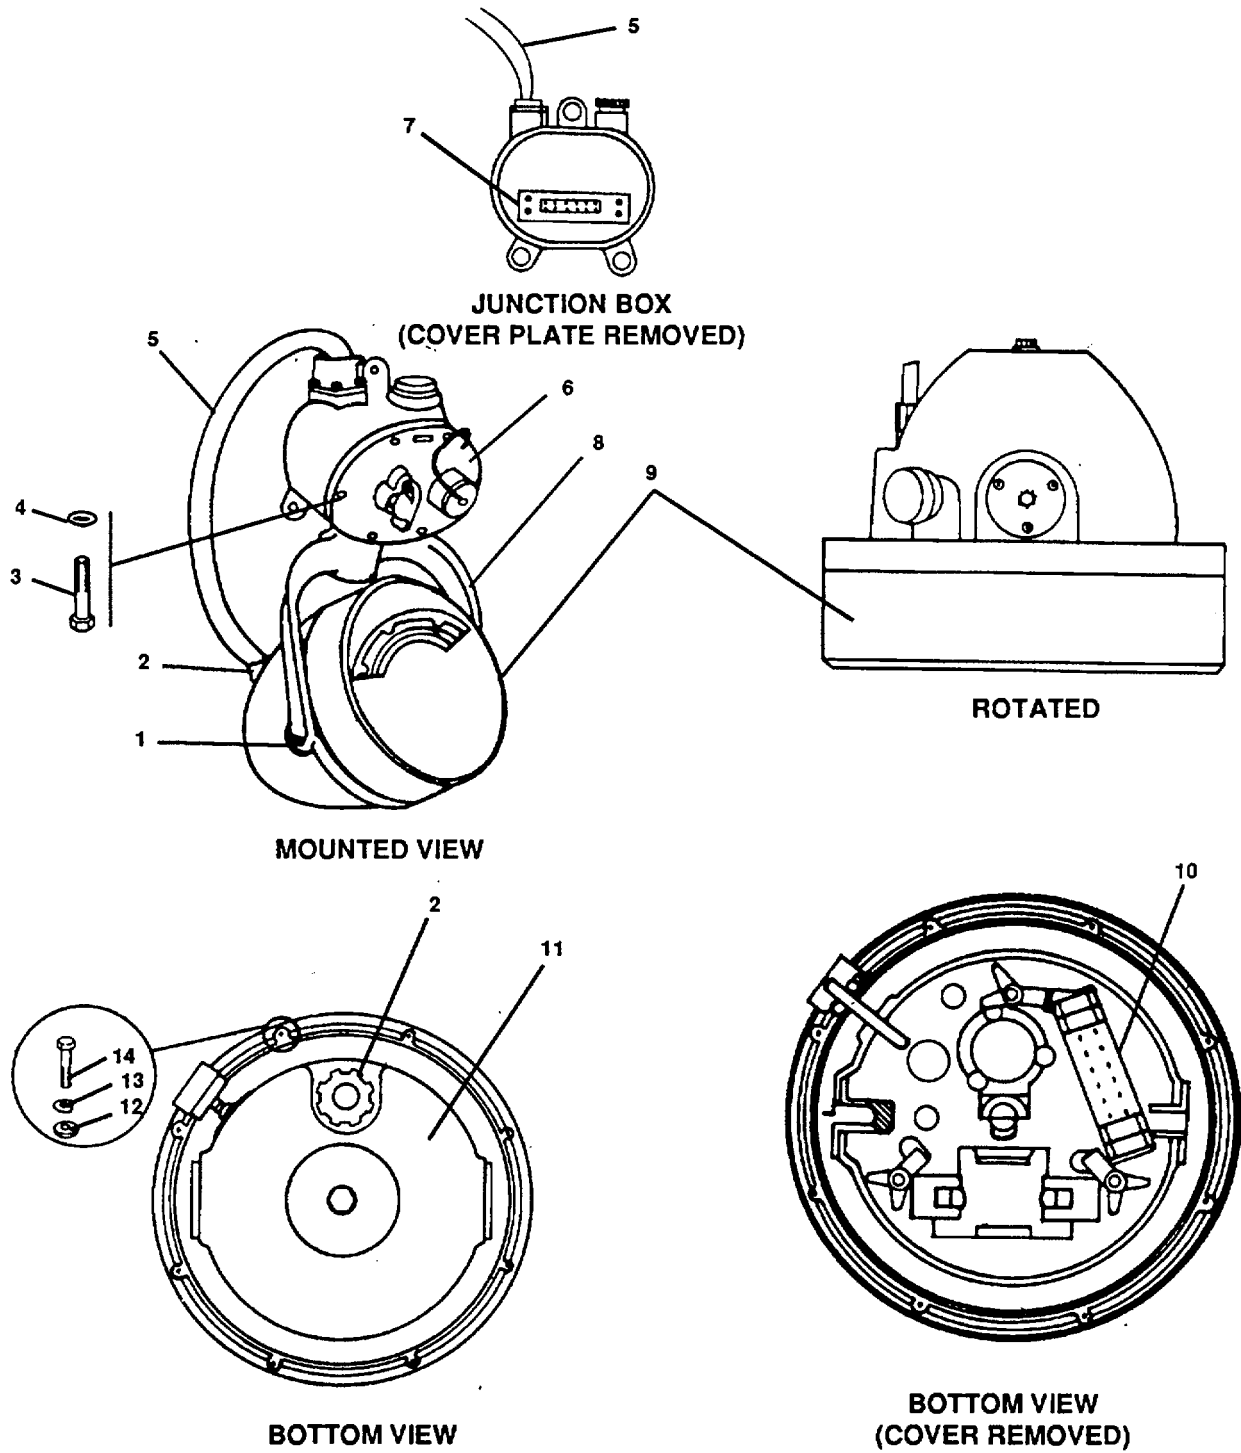

FIGURE 2-11. Open Scale Repeater Cable Replacement.
- (10) Loosen two bolts (1) on mounting bracket arms (2) and rotate repeater (3) to desired viewing position.
- (11) Secure repeater (3) by securing two bolts (1).
- (12) Start compass (TM 55-1905-223-10).
- (13) Verify operation of lamps.
b. Special purpose electrical cable (6 ft) replacement. (FIGURE 2-11).
- (1) On bulkhead mounting bracket arms (8), loosen two mounting bolts (1) and rotate open scale repeater (9) to ROTATED position and secure mounting bolts (1).
- (2) Remove eight screws (14), lockwashers (13), and flat washers (12) from cover (11).
- (3) Remove cover (11) from open scale repeater (9) as far as cabling will allow.
- (4) Tag and disconnect cable (5) wiring from terminal board (10).
- (5) Disassemble stuffing tube (2) from cable (5) and pull cable (5) from open scale repeater (9).
- (6) On bulkhead mounting bracket cover (6), remove six screws (3) and washers (4) and remove cover (6) as far as cabling inside will allow.
- (7) Tag and disconnect cable (5) wiring from terminal board (7) inside of junction box.
- (8) Disconnect cable (5) connector from junction box and connector adapter pull cable (5) from junction box.
- (9) Route replacement cable (5) into junction box through junction box connector adapter. Secure connector to connector adapter.
- (10) Connect cable (5) wiring to junction box terminal board (7). Remove tags.